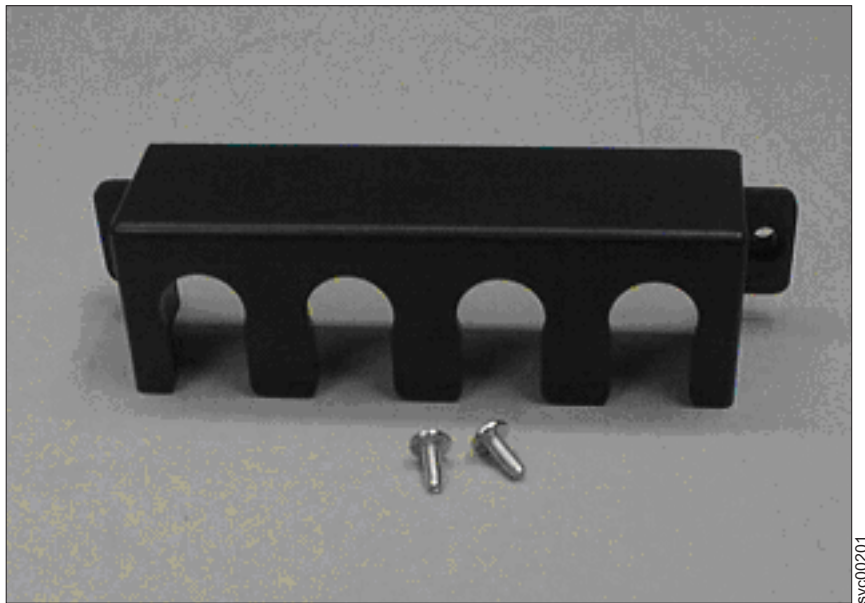

Figure 18. 2145 UPS-1U power cable-retention bracket hardware
2. Remove the bracket and the two screws (shown in Figure 18) from the packaging.